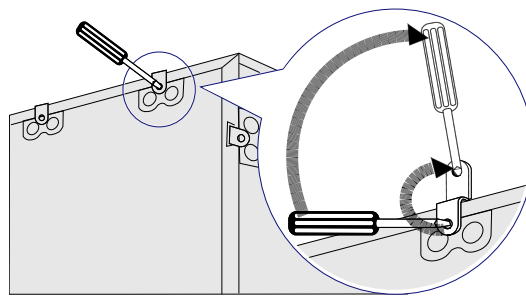

Figure 3-2 Pulling the Tongue Piece Straight
Step 3 Pull the tongue piece on the wooden cover straight using the wench, claw hammer or screwdriver. See Figure 3-2.